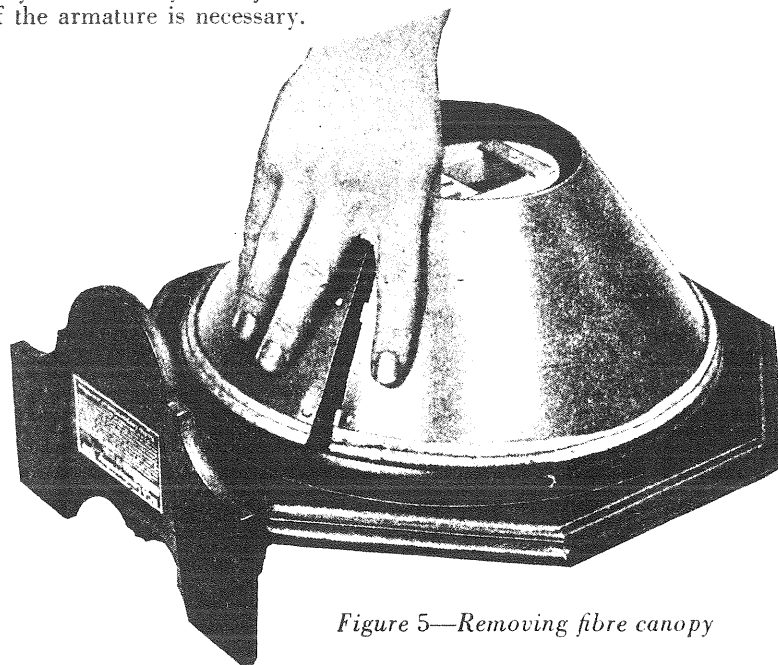

Figure 5—Removing fibre canopy
- (c) Gripping the fibre cover with the right hand at its point of contraction (See Figure 5) press the cover together until its edges are free from the metal edge that holds it in place.